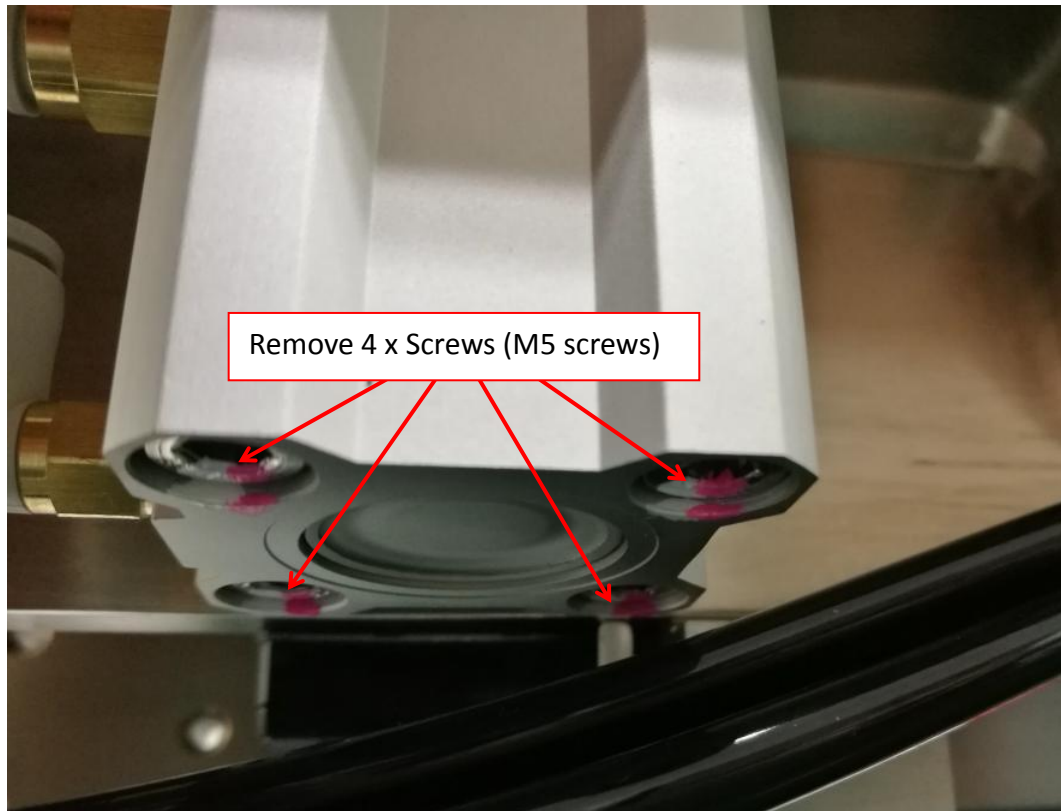

Figure 7 Screw Removal
9. Remove 4 x Screws (M5 screw) as shown in Figure 7.